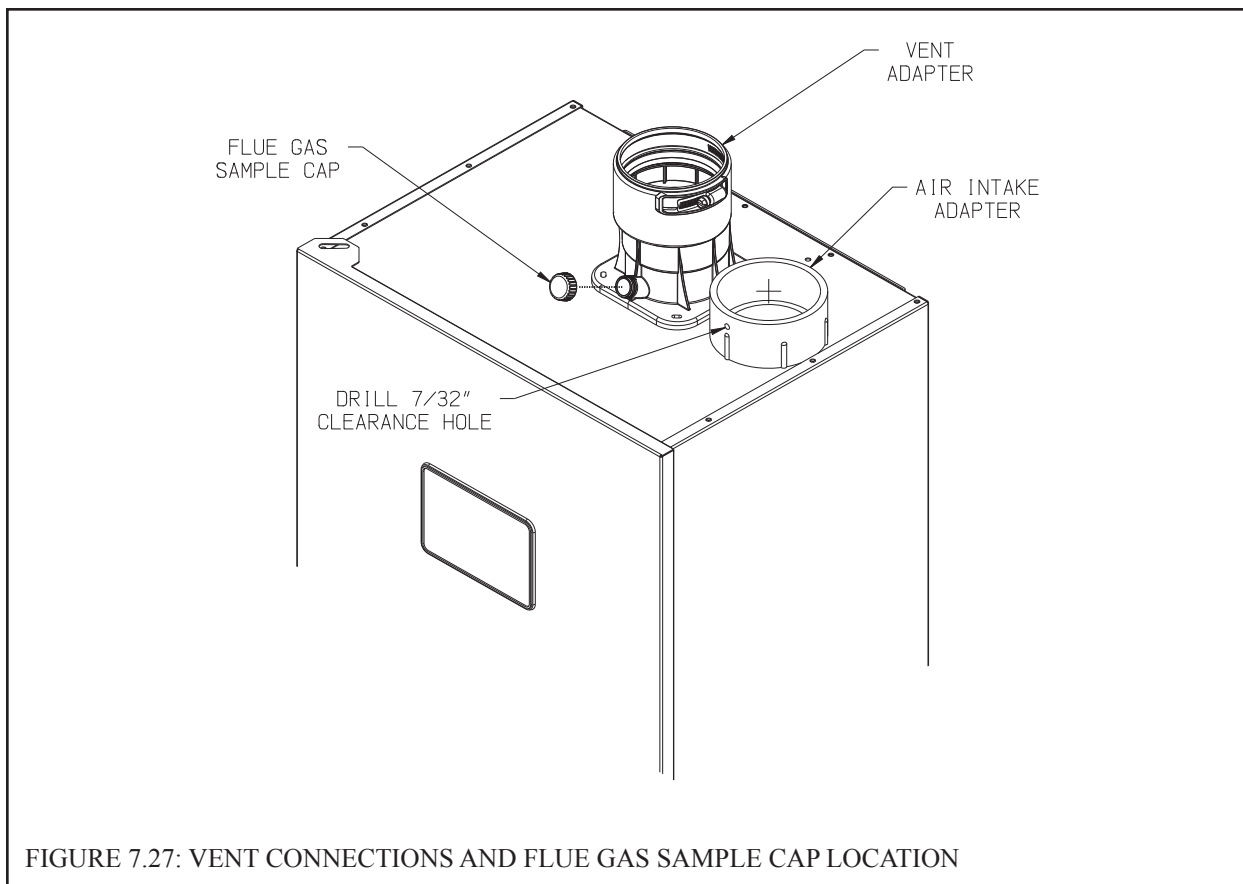

FIGURE 7.27: VENT CONNECTIONS AND FLUE GAS SAMPLE CAP LOCATION
- Never leave the boiler in operation without the gas sample cap in place (Figure 7.27)